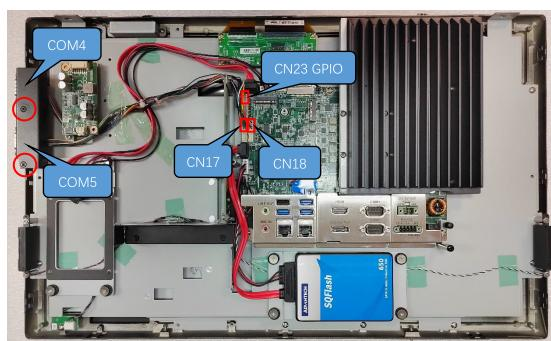

Figure 2.22
6. Replace the VESA mount plate. Take out two plugs located at the top of the rear cover (see Fig. 2.22) for the antenna connectors. Then replace the rear cover and secure in place using screws. Finally, attach the antennas to the two antenna connectors located at the top of the panel (see Fig. 2.23).